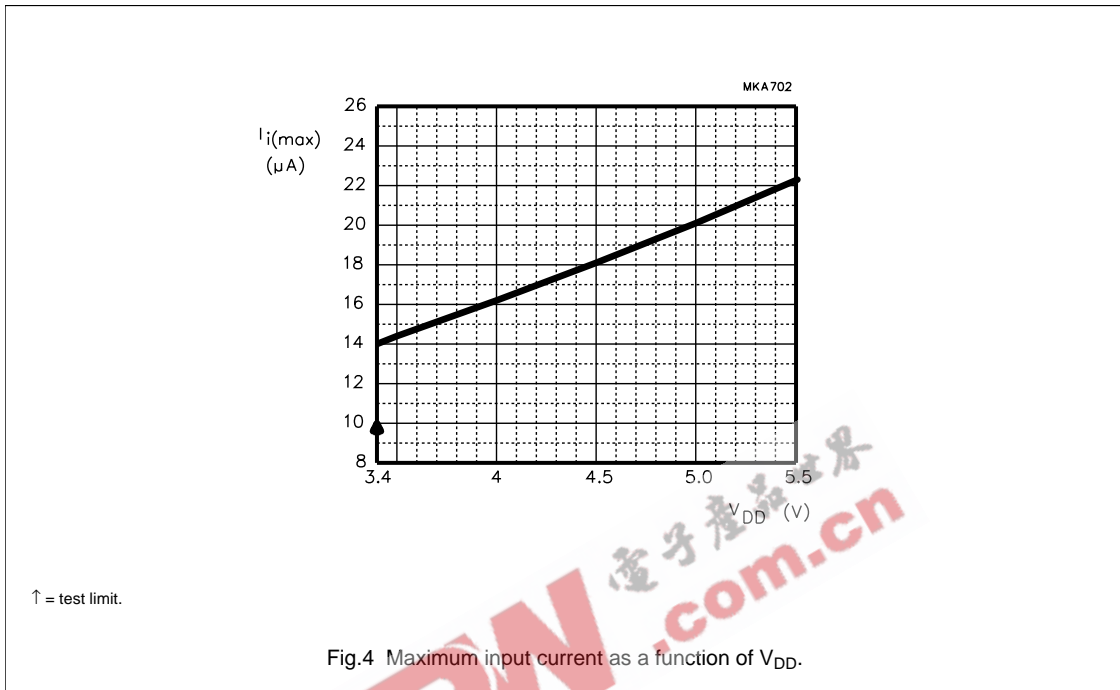

Fig.4 Maximum input current as a function of V_{DD}.
1. The maximum input current is defined as the current in which the gain reaches its minimum. Increasing the supply voltage to $V_{DD} = 5\text{ V}$ increases the maximum input current (see also Figs 4 and 5).